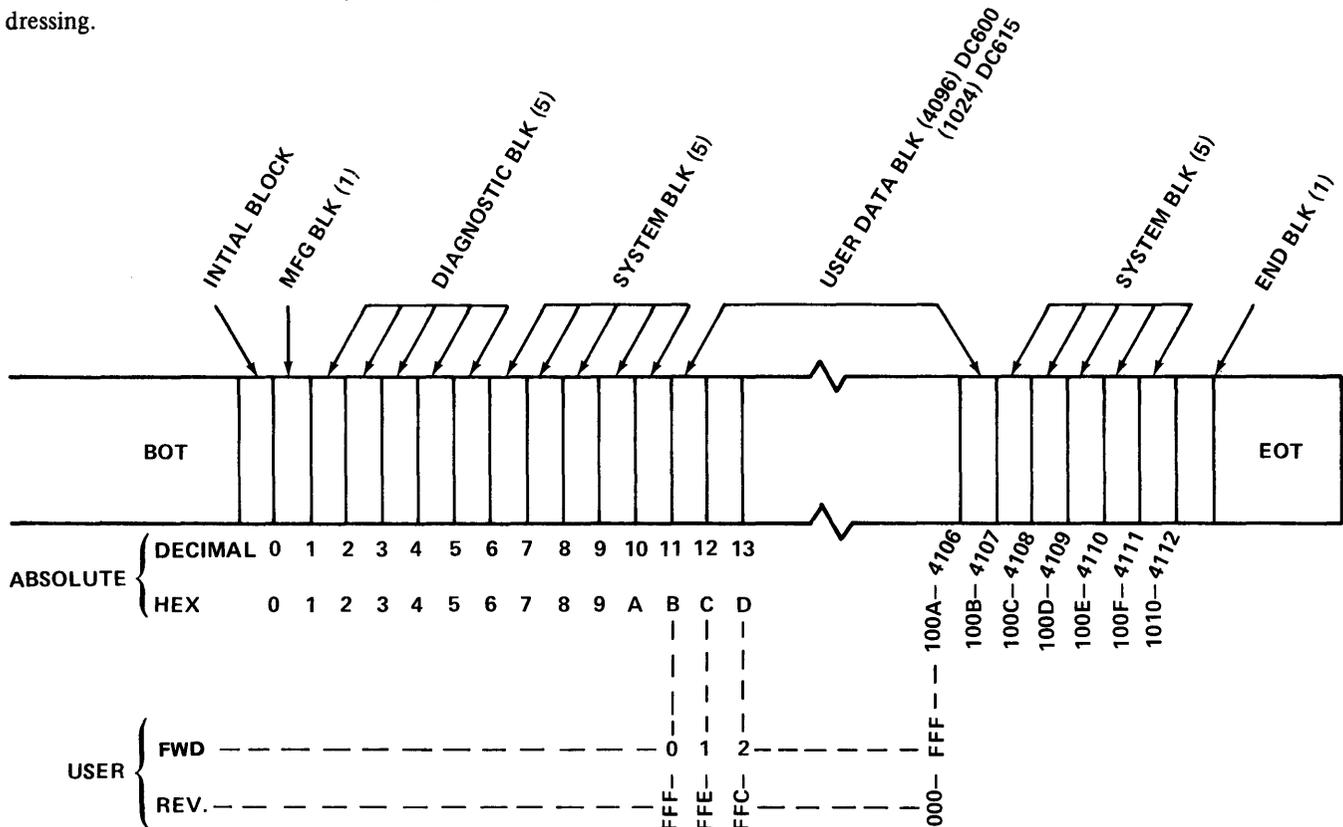

FIG. 6 DC600HC Data Blocks
**ABSOLUTE KEYS**—The absolute keys are the numbers recorded on tape at the time of manufacture. The hex key numbers run from 0000 at BOT to 1010 at EOT (0000 to 0410 on a DC615). Refer to Figure 6 for details of data block area uses. Refer to the section on Absolute Addressing in the Data Controls section for details on absolute addressing of keys versus user addressing.